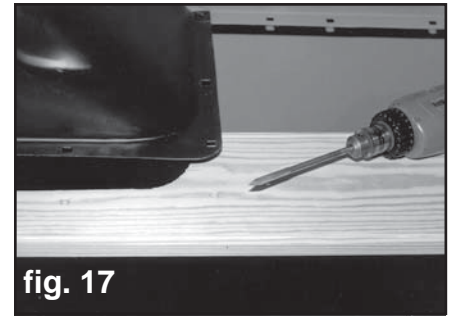

fig. 17
11. Remove these boards and drill these holes with a 3/8" wood bit. See figure 17.